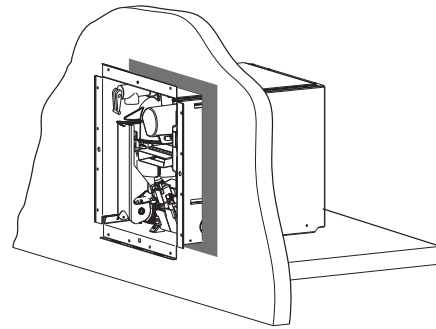

Fig. 21
- Apply an adequate amount of watertight sealing material to the entire flange area of the installation frame and at the corners, see grey marking in Fig. 21.